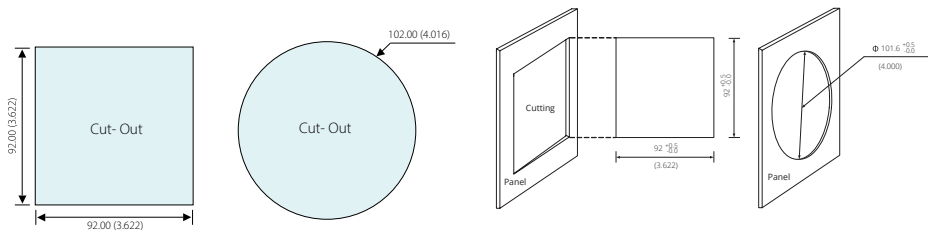

Figure 2-9 - Panel Cutout
1. Cut a square hole or round hole on the panel of the switch gear. The cutting size can be seen in Figure 2-9.